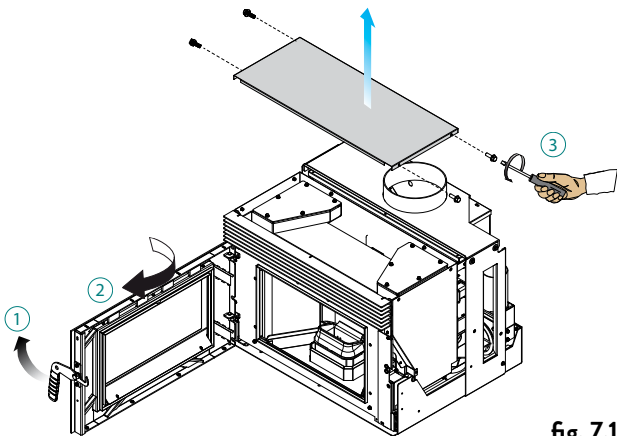

fig. 7.14
- A) Open the door (1), remove the top panel (2), unfasten and remove both stoppers (3) (fig. 7.14)